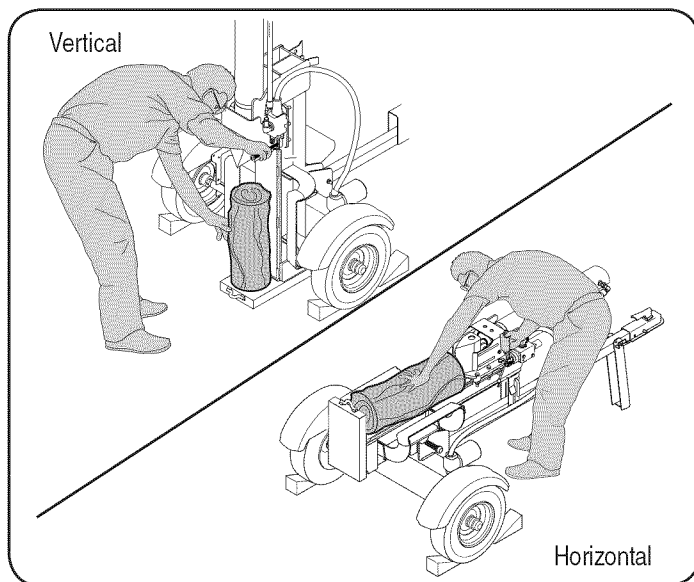

Figure 11
2. Block the front and back of both wheels. See Figure 11.
3. Stand in front of the log splitter to operate the control handle and to stabilize the log. See Figure 11.
2. Stand behind the reservoir tank to operate the control handle and to stabilize the log. See Figure 11.